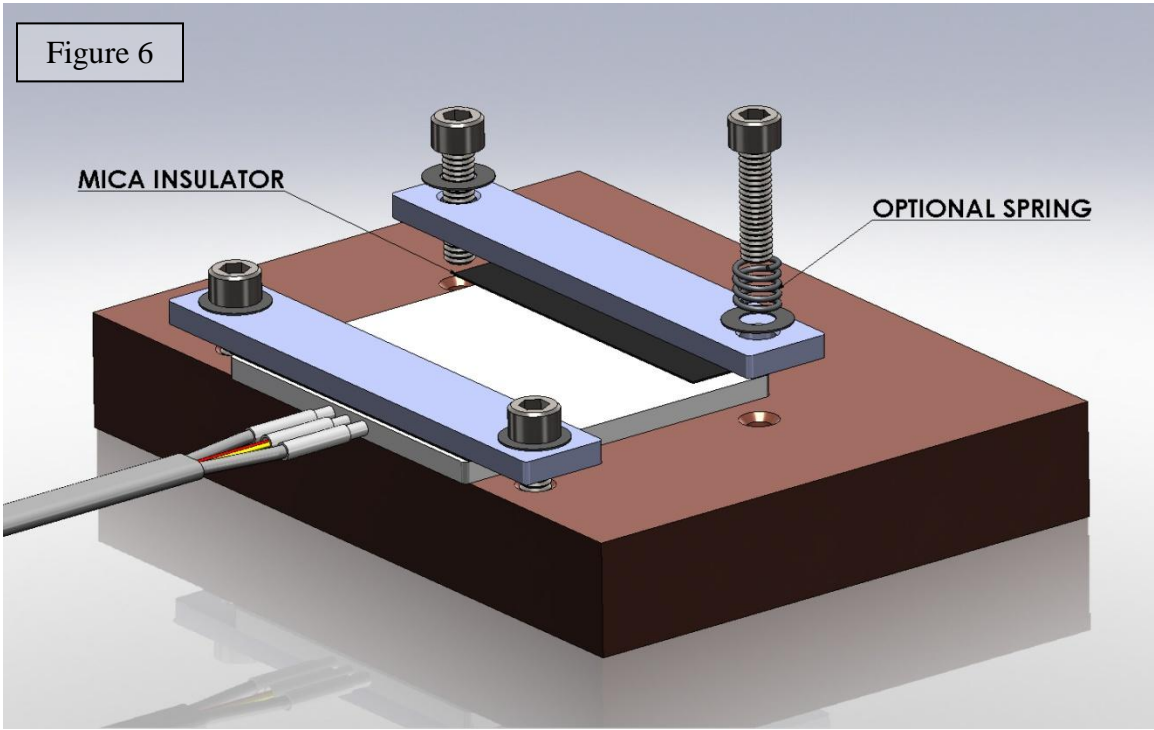

Figure 7
**Dielectric Strength Considerations** – The standard heater termination includes a short ceramic bead over a metal pin wire as shown in Figures 7 and 8 below. To ensure appropriate dielectric strength, consider the combination of the voltage, heater thickness, atmosphere and dielectric clearance. Suggested methods for ensuring sufficient dielectric strength include:
- Extending the heater termination area beyond the mating part (as highlighted in Figures 7 and 8)